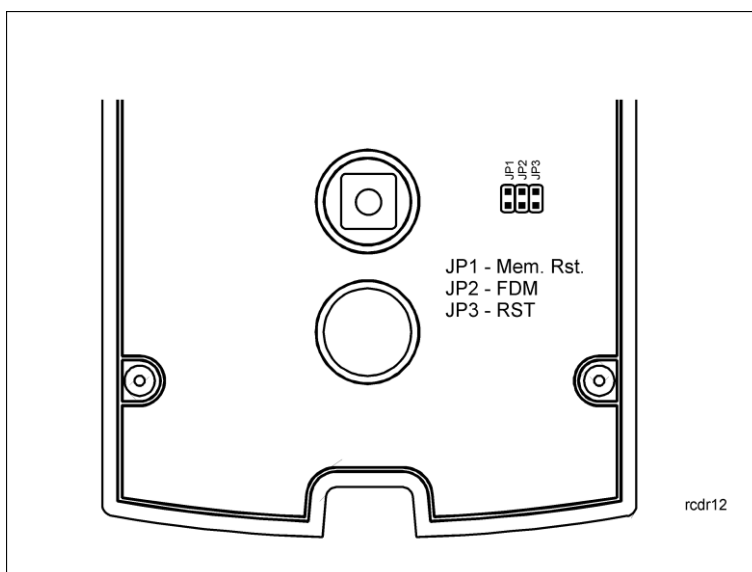

Fig. 7 Location of FDM and RST pins inside controller enclosure
- Install devices in such way as to ensure easy access to screw terminals and jumpers (RST, FDM) located inside the controller – see fig. 7.
- Place jumper on Mem. Rst. pins inside controller enclosure (see fig. 7) – continuous acoustic signal shall be generated and
- Place jumper on Mem. Rst. Pins inside controller enclosure (see fig. 7) - continuous acoustic signal shall be generated
- Place jumper on FDM pins (see fig. 7)